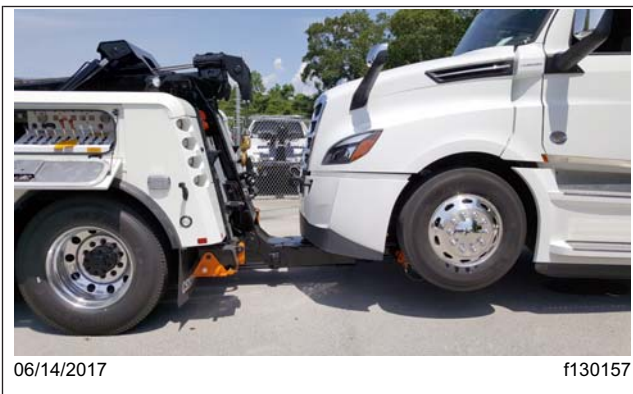

Fig. 23.16, Final Towing Position
18. Use the stinger to pull the truck close to the back of the tow truck for final towing position. See Fig. 23.16.